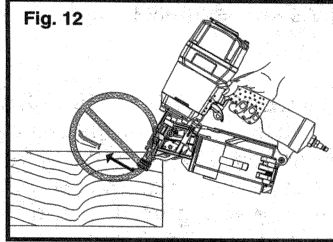

Fig. 12
21. DO NOT DRIVE FASTENERS on top of other fasteners, or with the tool at too steep an angle: the fasteners can ricochet causing personal injury. Fig. 12.